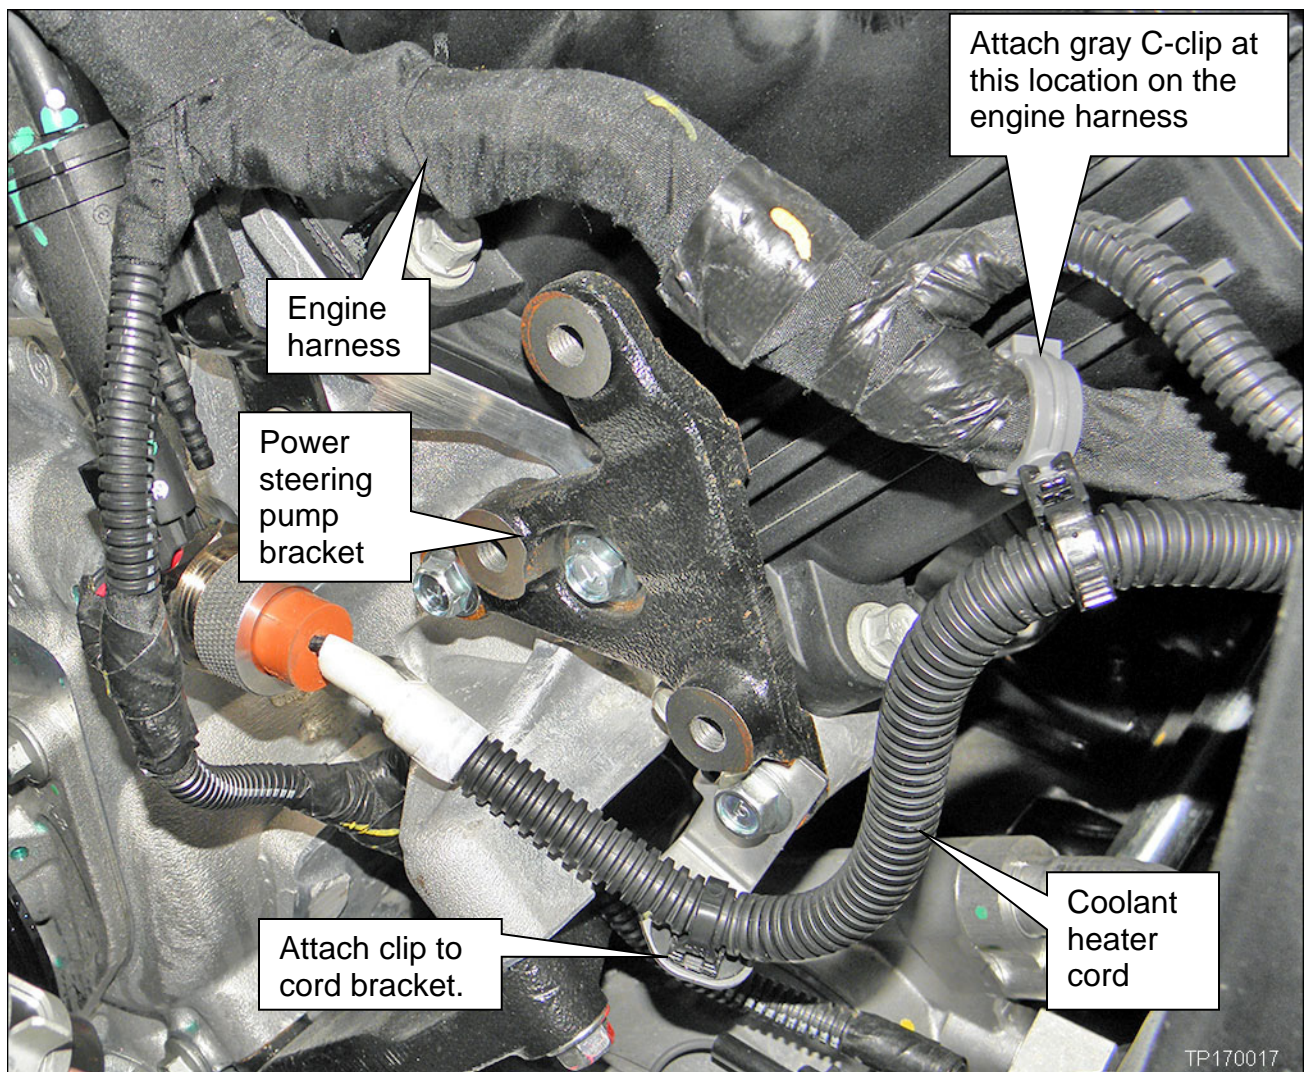

Figure 7
11. Route and connect the coolant heater cord as show in Figures 7 through 10.